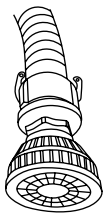

Fig. 9
2. Place a filter / strainer (not included) onto the end of the rigid suction hose (Fig. 9), before placing the hose into the water. **NOTE:** The total lift from the filter / strainer to the level of the side port must not exceed 25 feet (7.6 meters).